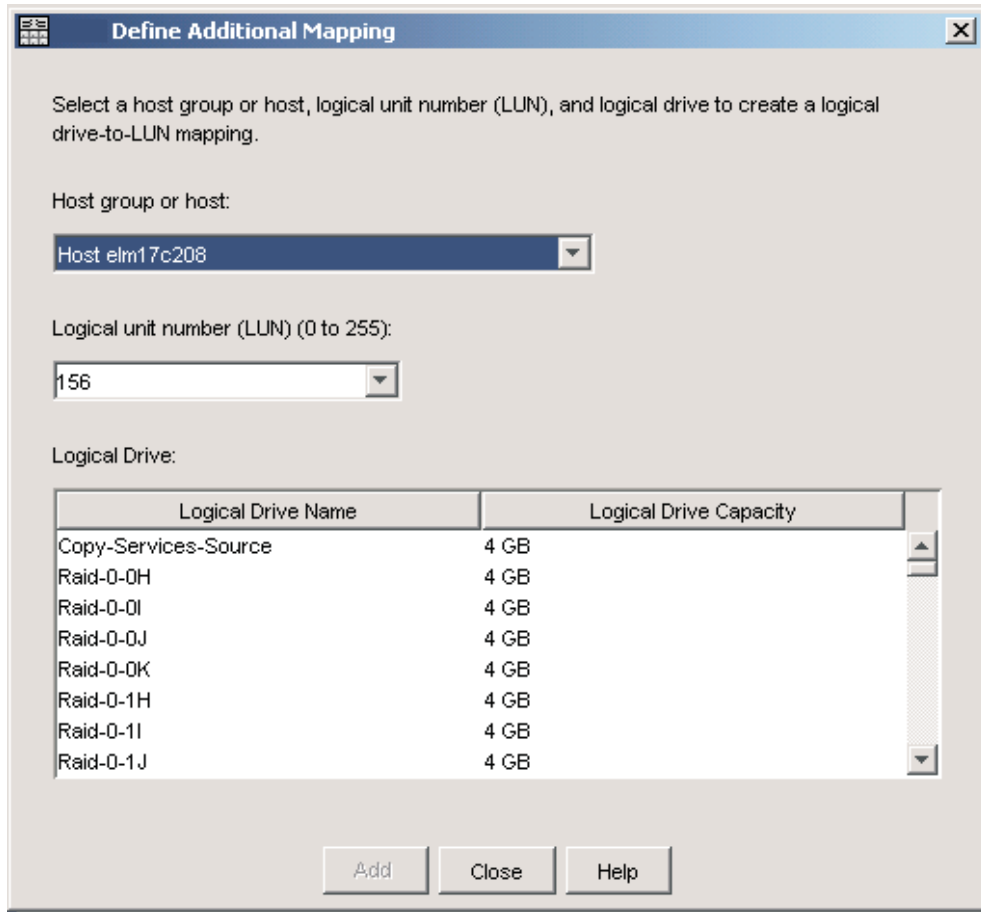
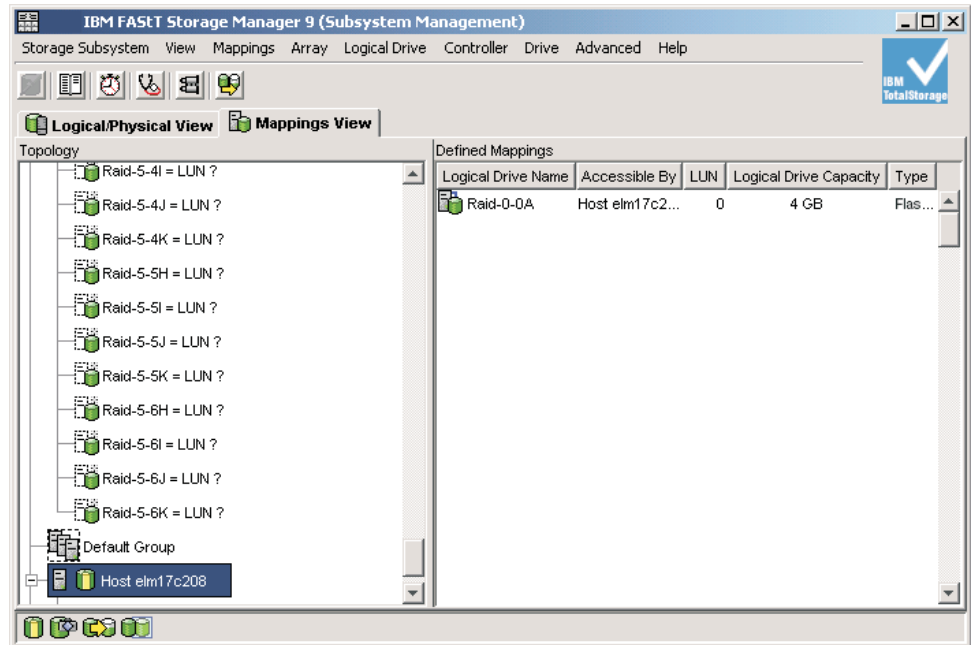

Figure 12. The Define Additional Mapping window
Figure 13. Mapped FlashCopy logical disk
3. In the Define Additional Mapping window, specify the following options, as shown in Figure 12 on page 26.
When you are finished, the FlashCopy logical drive is available to the host or host group, as shown in Figure 13 on page 27.
In the mapping example shown in Figure 12 on page 26 and Figure 13, the FlashCopy logical drive named DataVol-1 is made available to the backup server host group. This enables the backup server to access and mount the drive as part of its own file system. It also allows a local backup to be performed by the backup application software.